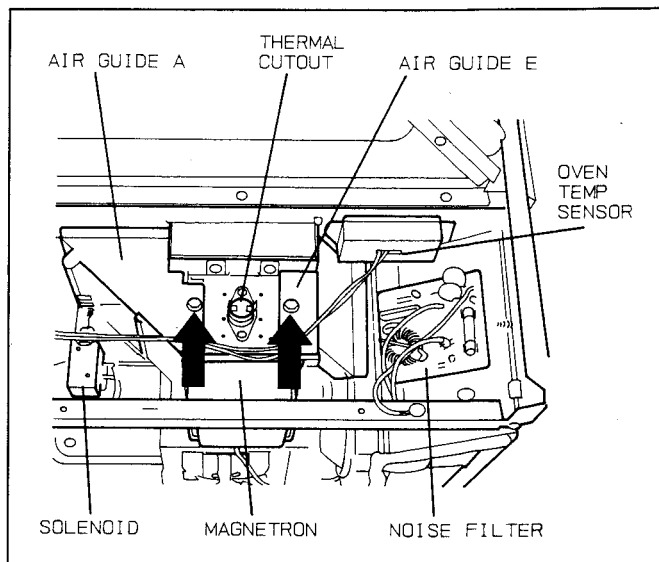
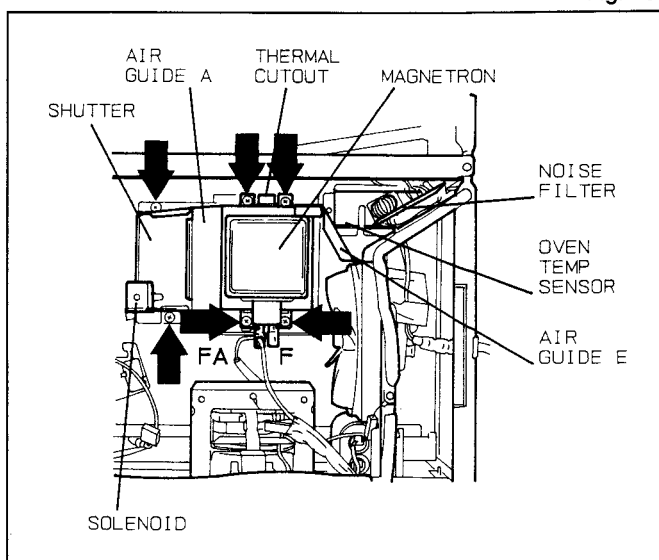

Fig. 16A
Fig. 16B
- (A) Discharge the high voltage capacitor. (See page 13)
- (B) Remove 2 screws holding thermal cutout.
- (C) Remove 4 screws holding air guide A and E. (Fig. 16A & 16B)
- (D) Remove 2 high voltage leads from filament terminals. (F, FA)
- (E) Remove 4 screws holding the magnetron. (Fig. 16B)
When connecting 2 filament lead wires to the magnetron terminals, be sure to connect the lead wires in the correct position. The lead wire of high voltage transformer should be connected to "F terminal" and the lead wire from high voltage capacitor should be connected to "FA terminal". (See Fig. 16B)